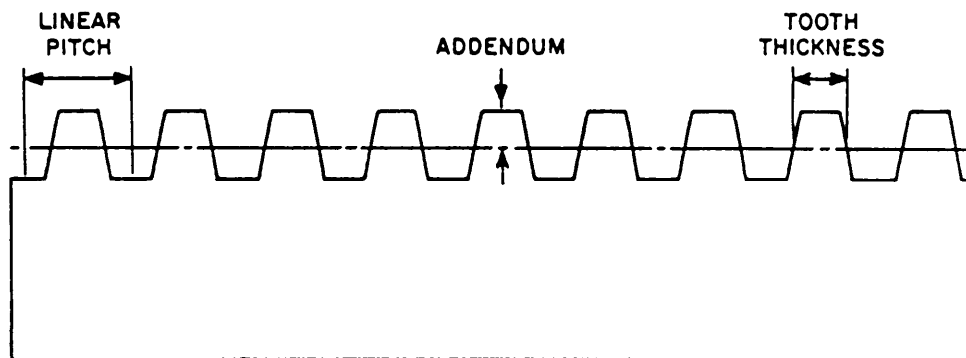

Figure AIV-2.–Linear pitch.
(3) Figure AIV-2 illustrates linear pitch.